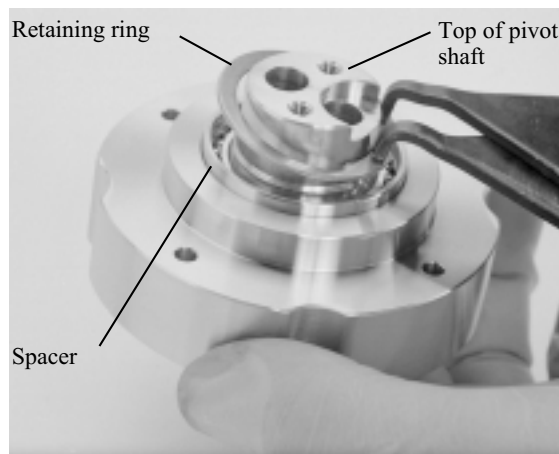

Figure 6-27. Removing the retaining ring that holds the bearing housing together
Perform the steps described below and refer to Figures 6-27 and 6-28 when disassembling the bearing housing assembly.
Step 2: Using a snap ring tool fitted with correct-sized prongs, spread the retaining ring and remove it from around the pivot shaft (see Figure 6-27).
Step 1: Put the pivot shaft in place inside the bearing housing, making sure that both parts face the correct direction. Figure 6-27 shows these parts correctly assembled.